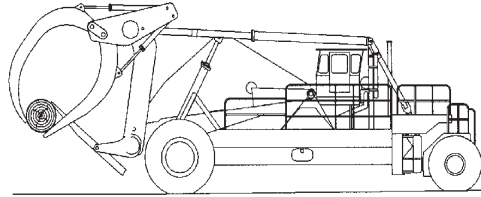

Fig. 5-14
- Fig. 5-14 shows a good example of the Lumberjack's flexibility. The log is under the tines and is held by the holddown and kickoff arms. Partial loads should be held with the hold-down and kickoff arms.